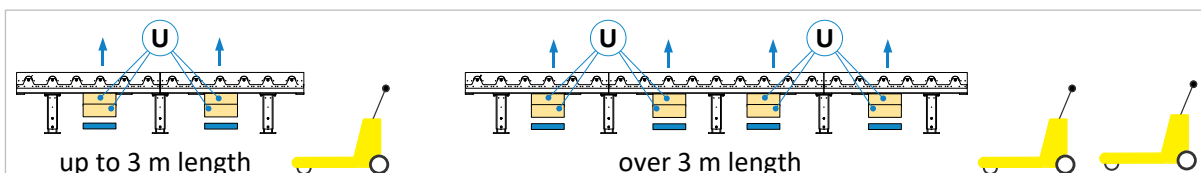

Figure 7: Moving the roller conveyor to the place of use
Use one or more wooden underlay boards (U) to make the roller conveyor accessible for one (resp. two) pallet trucks at the points marked in ⇒ Figure 7. Insert the forks at the marked points and lift the roller conveyor carefully and consistently at all points. Then move the roller conveyor to the final place of use (e.g. to the processing machine) and set it down there.